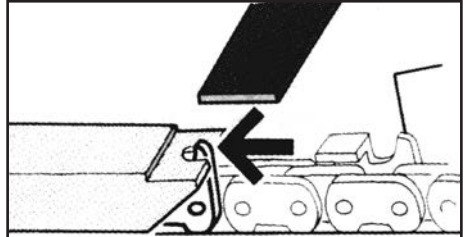

Fig. 20
5. If after sharpening a few times, the depth gauge protrudes from the template, you must reset its level using a flat file. (Fig.20)